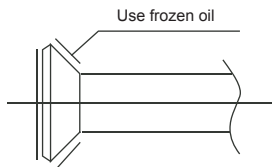

Fig.11-1
- ① Bend the tubing in proper way. Don't harm them.
- ② Daub the surfaces of the flare pipe and the joint nuts with frozen oil, and wrench it for 3~4rounds with hands before fasten the flare nuts. (Refer to Fig.11-1)
- ③ Be sure to use two wrenches simultaneously when you connect or disconnect the pipes.